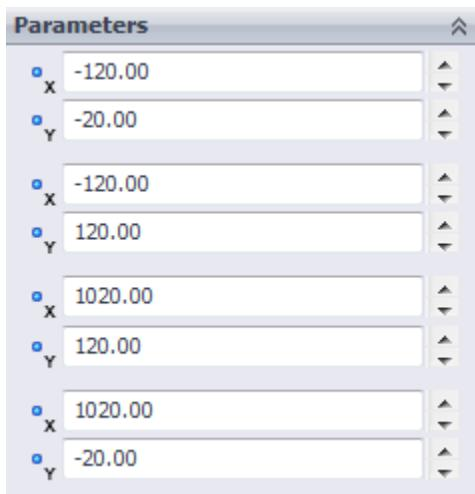

Figure 2.4 Dimensions of second larger rectangle
4. Repeat steps **2** and **3** but create a larger rectangle outside of the first rectangle. Dimensions are shown in Figure 2.4.